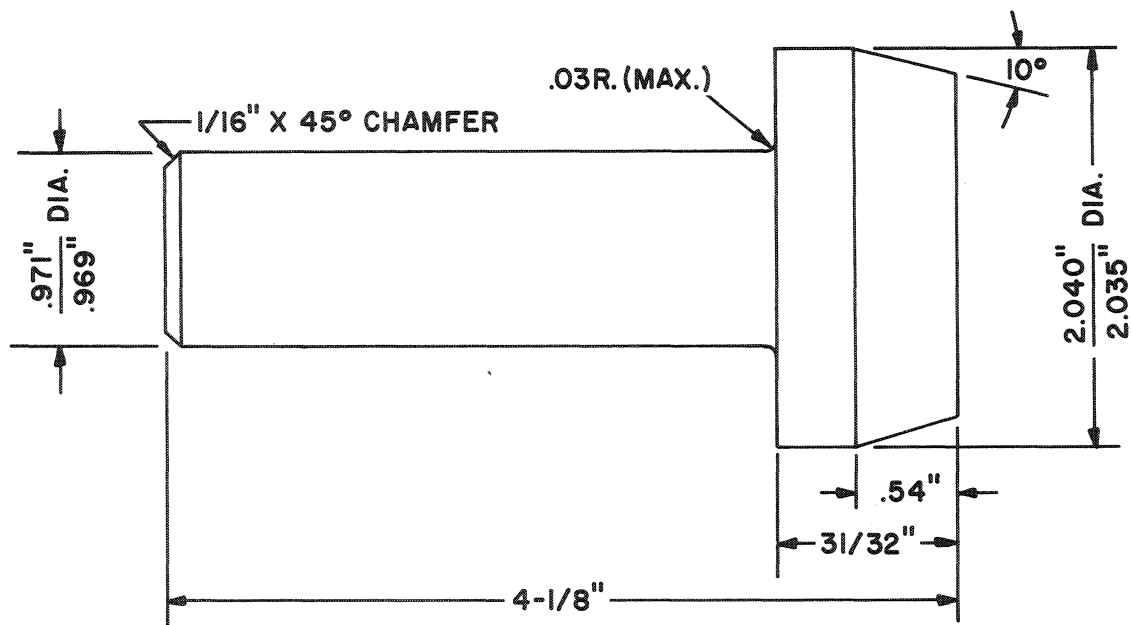

FIGURE 15B
2. To remove the bearing a special tool should be made as shown in Figure 15B.